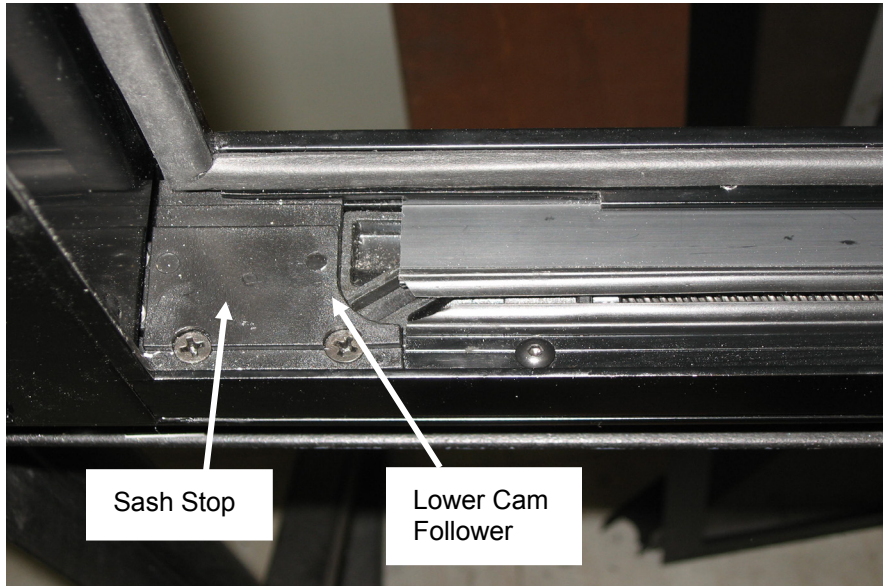

FIGURE 64: PROPER ALIGNMENT
1. Align the leading edge of the slot on the lower cam follower block with the sash stop. Use the power toggle switch to obtain the correct alignment. (Figure 64)